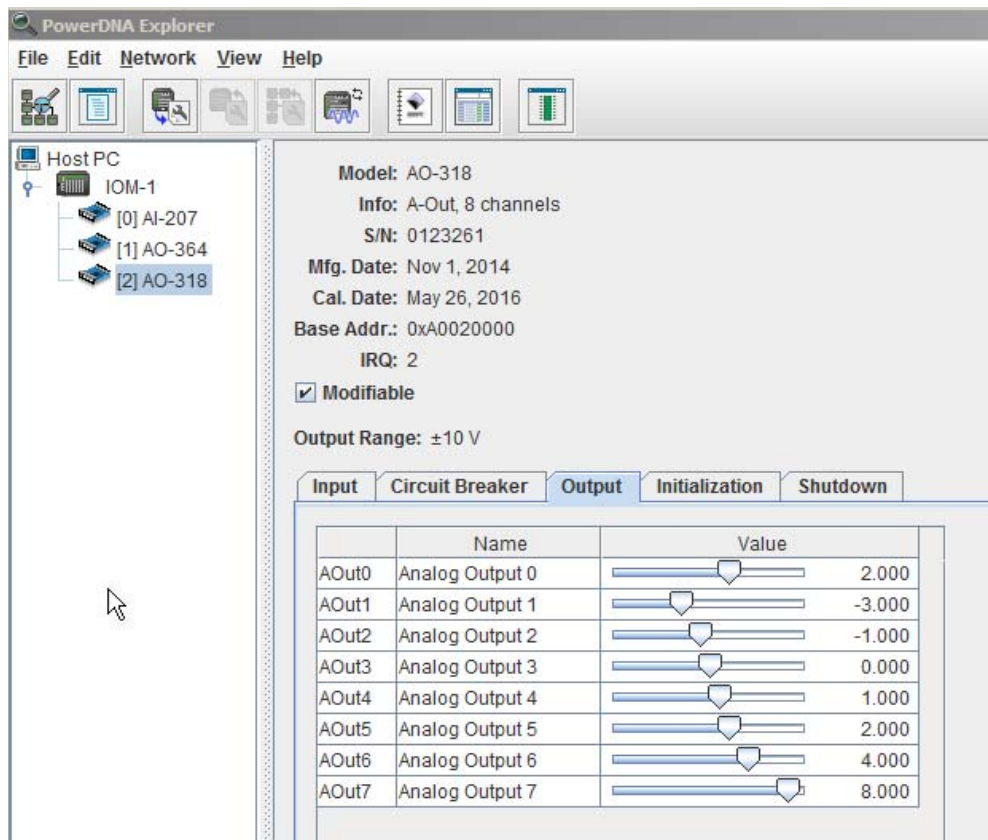
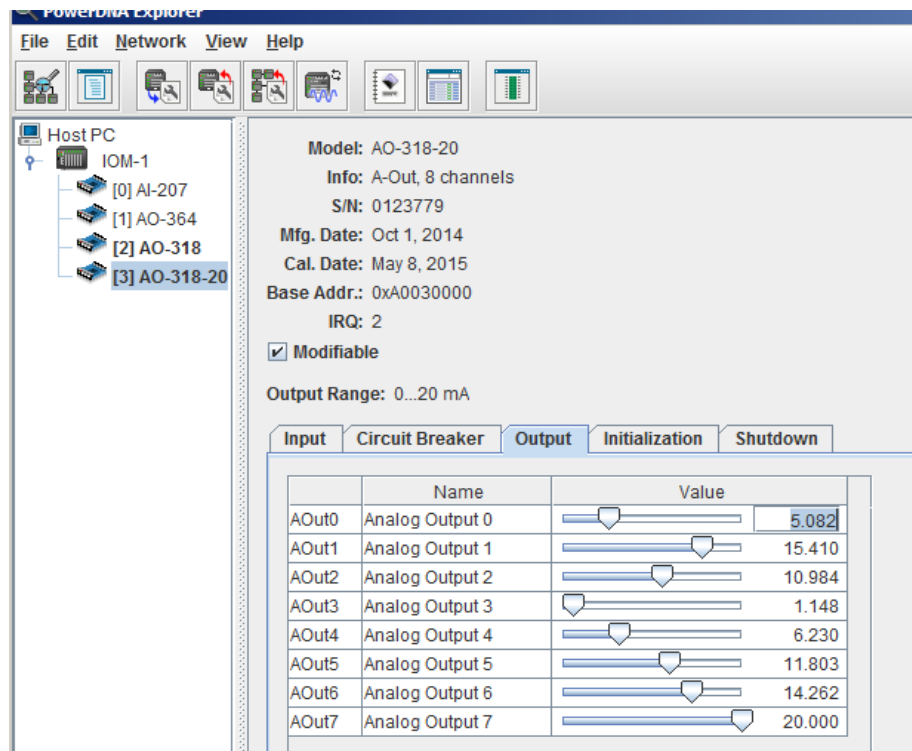

Figure 1-7 PowerDNA Explorer Output Control Panel for AO-318
Figure 1-10 PowerDNA Explorer Output Panel for AO-318-020
1.8.3 Output Values The **Output** tab, shown **Figure 1-10** below and in **Figure 1-7** on page 12, contains the following columns:
The **Initialization** tab is similar to the immediate output, shown in **Figure 1-10** and in **Figure 1-7** on page 12, but instead of outputting values immediately, stores values into the EEPROM configuration to set the output value on power-up. The factory default value is 0.
The **Shutdown** tab is similar to the immediate output, shown in **Figure 1-10** and in **Figure 1-7** on page 12, but instead of outputting values immediately, stores values into the EEPROM configuration to set the output value in shutdown mode. The factory default value is 0.